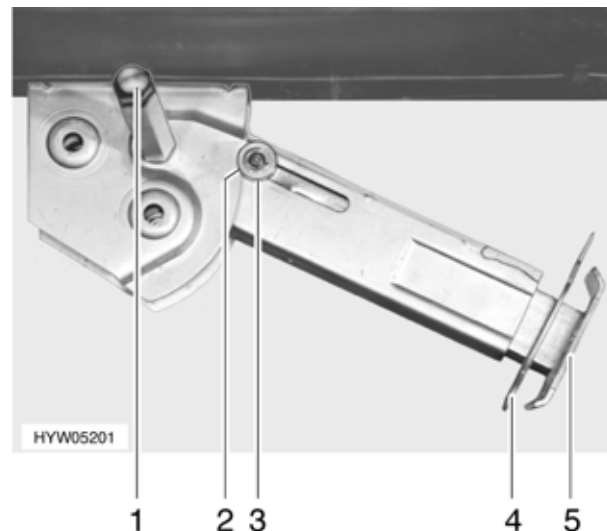

Fig. 22 Steady leg
- Place the socket spanner on the hexagon nut (Fig. 22,1) and rotate until the steady leg is in a perpendicular downward position.
- Remove the splint (Fig. 22,4) out of the support foot extension (Fig. 22,5).
- Place the socket spanner on the hexagon nut (Fig. 22,1) and rotate until the steady leg is clear of the ground.
- Push in the support foot extension (Fig. 22,5) and insert the splint (Fig. 22,4) in the drilled hole in the support foot extension.
- Rotate the hexagonal nut (Fig. 22,1) with the socket spanner until the steady leg has swung upwards and the guide disc (Fig. 22,3) has completely retracted into the notch (Fig. 22,2).
- ▷ Make sure that all steady legs are completely retracted, all support foot extensions are completely pushed in and secured with the splint (Fig. 22,4) and the guide discs (Fig. 22,3) in all steady legs are retracted into the notch (Fig. 22,2).